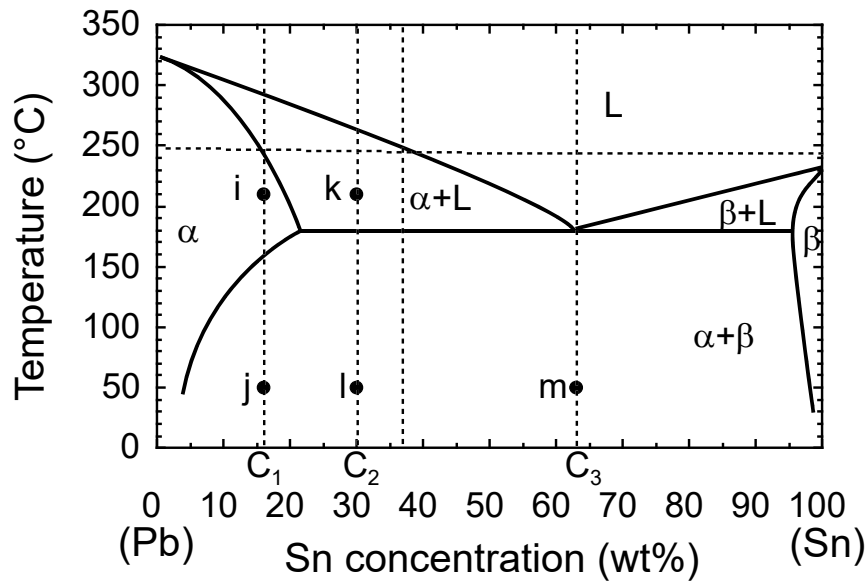

Fig. 3
- (1) Explain the temperature dependence of the diffusion coefficient of atoms in solids.
- (2) Explain interstitial solid solution and substitutional solid solution.
- (3) Explain quenching and tempering of steel.
- (4) Describe the relationship between work hardening and recovery processes and dislocations.
- (5) Explain the Guinier-Preston zone.
- (6) Explain the Paris equation for fatigue crack growth rate.
9. Answer the following questions about the phase diagram of Pb-Sn alloys shown in Fig. 3.